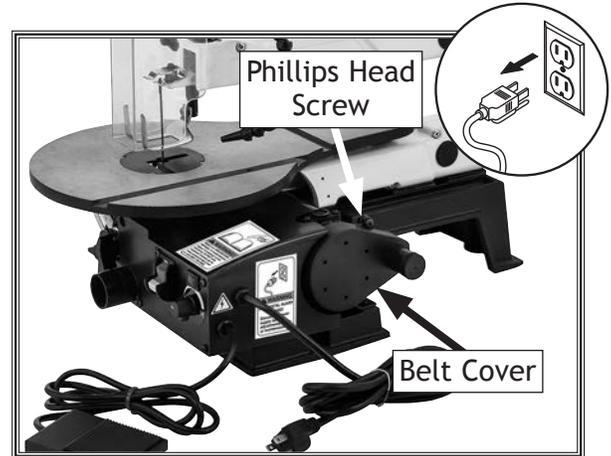

Figure 40. Timing belt cover screw location.
3. Remove three screws that secure belt cover (see **Figure 40**), then remove cover.